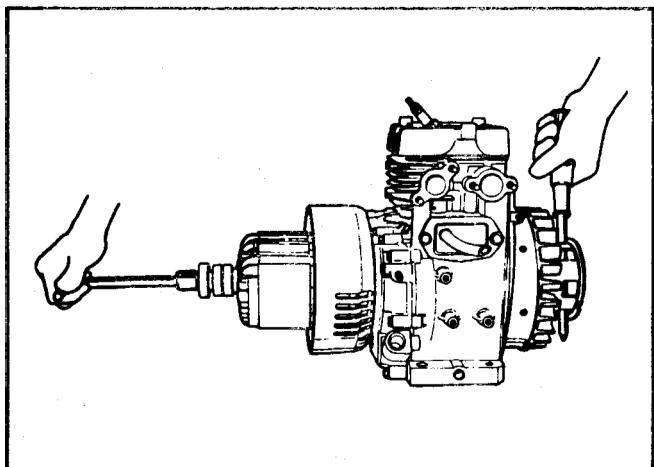

Figure 64
17. Hold the crankshaft in place with a screwdriver or bar through the recoil starter cup and remove the rotor set bolt. See Figure 64.